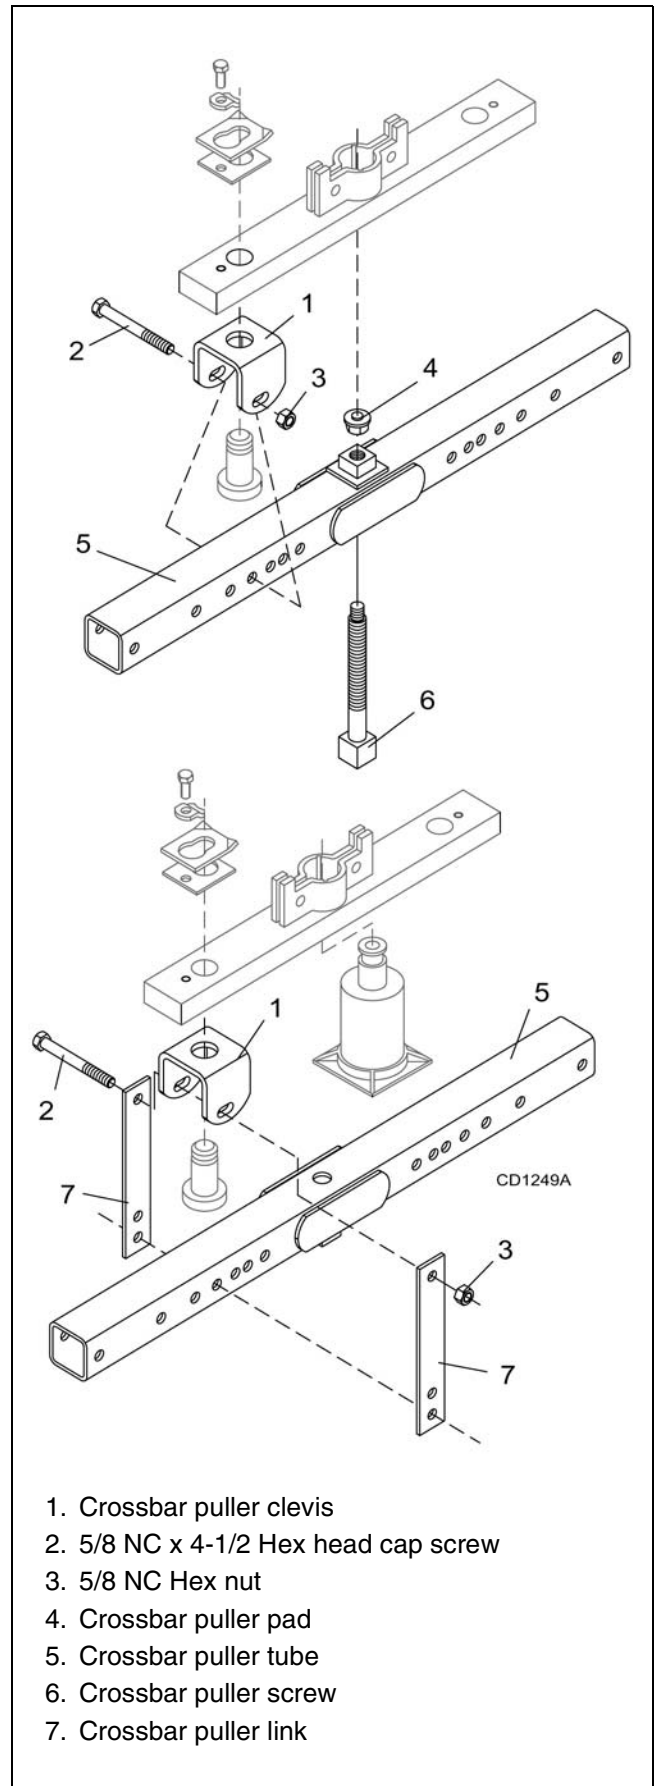

Figure 14. Crossbar Removal
NOTE: You will need to use either the puller screw (Item 6, Figure 14) or a small hydraulic jack to remove the crossbar.
4. Refer to Figure 14. Attach a clevis (1) to each end of crossbar, using blade pins, spacers, keyhole plates, and blade pin clips.
5. Position tube assembly (5) with threaded nut (4) toward crossbar for puller screw removal or down for hydraulic jack removal.
6. For removal with puller screw, attach tube (5) to each clevis with bolts (2) and nuts (3). Place pad (4) in nut and thread puller screw (6) into nut from bottom. Tighten until pad is solid against gearbox shaft. For best results, strike head of puller screw with a hammer while tightening with a wrench.
7. For removal with a jack, attach tube to each clevis with puller links (7), bolts (2), and nuts (3). Place jack on tube with end of jack pressing against gearbox shaft. Slowly apply force with jack.